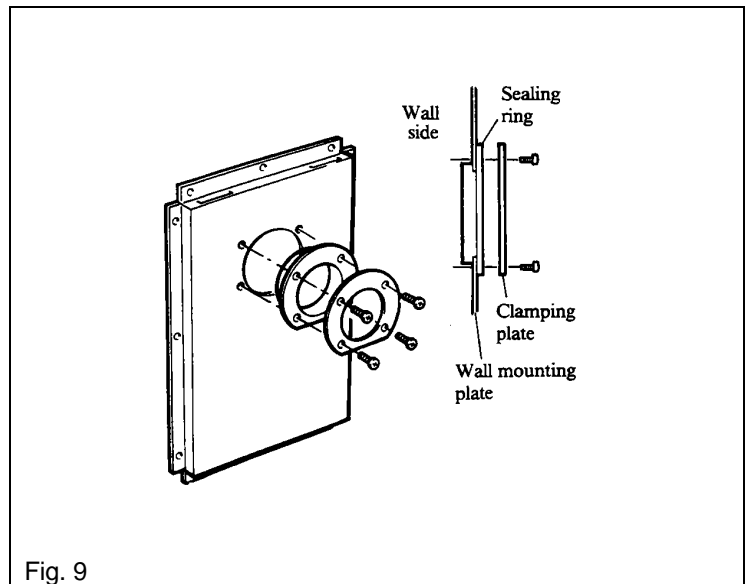

Fig. 9
6. Place the rubber sealing ring, supplied with the flue/terminal assembly, in position in the opening in the wall mounting plate as shown in Fig. 9, it does not matter what position the cut-away is in. Ensure that the groove in it is located correctly over the mounting plate and that the holes line up with the fixing holes in the mounting plate.